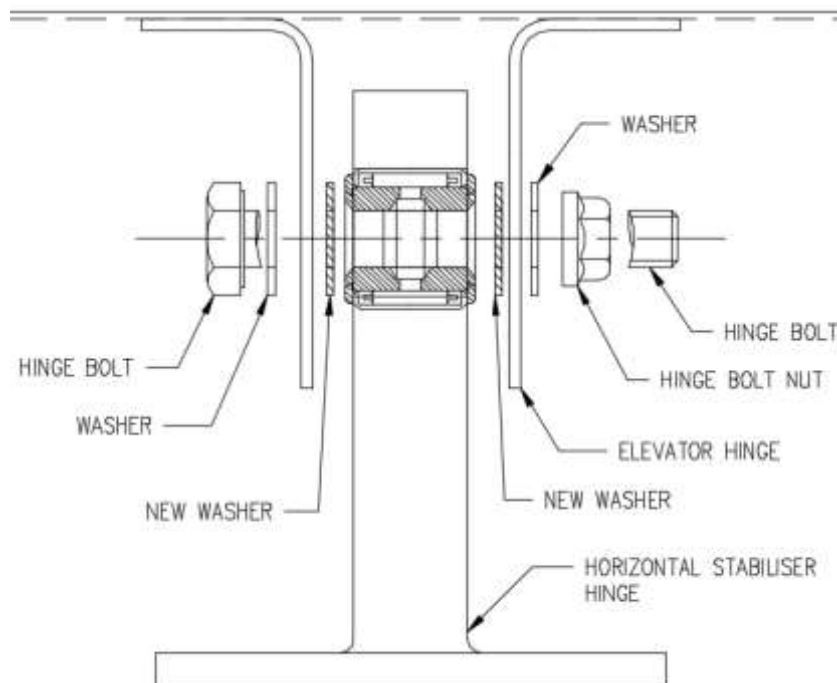

Figure 4 – Centre Hinge Installation
- 8.1. Insert serviceable hinge bolt, nut and washers through Centre Hinge using 2 (two) quantity washers (Item 2) as identified in Figure 4 as 'new washers'.